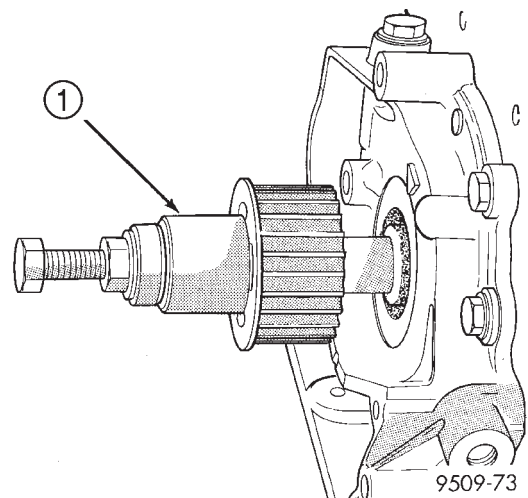

Fig. 88 Crankshaft Sprocket—Installation
(3) Install crankshaft sprocket (Fig. 88) using Special Tool 6792.